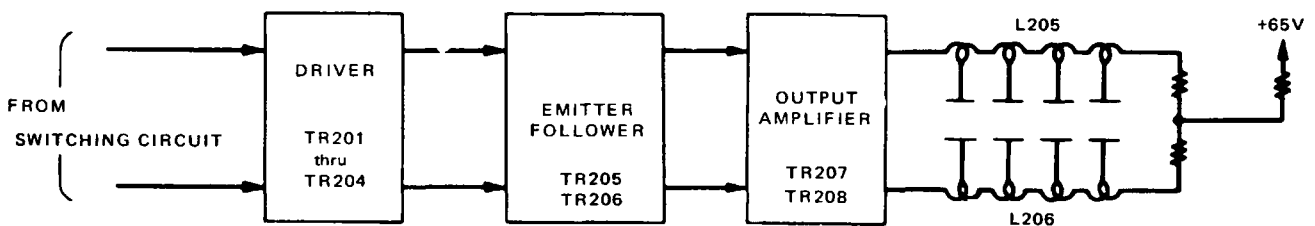

Figure 3-7 Main Vertical Amplifier Block Diagram
f. Main Vertical Amplifier (Schematic 5). The Main Vertical Amplifier consists of cascaded differential amplifiers which drive the distributed vertical deflection plates of the CRT. Referring to Figure 3-7, the input to the main amplifier is from the 90 ns delay line. An RCL network composed of R201, R202, R203, C201, and L201 provides a compensated termination for the delay line. The first two stages, TR201/TR202 and TR203/TR204 are differential pairs with frequency compensation networks in the emitter circuits. The signal from the collectors of TR203/TR204 drives an impedance transformation stage composed of emitter followers TR205/TR206. These stages provide a high input impedance for the amplifier stages and a low output impedance to output amplifiers TR207/TR208.